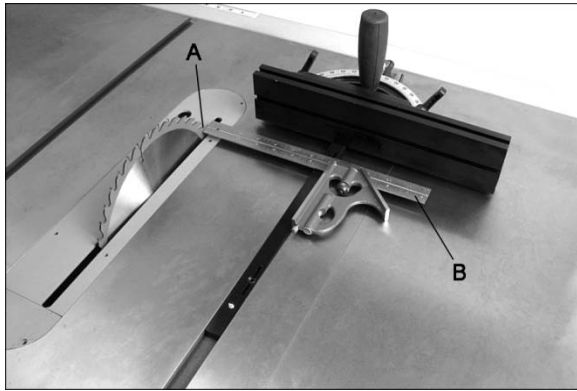

Figure 29
Refer to Figures 29 and 30.
3. Mark one tooth (A, Figure 29) with a grease pencil and position the tooth slightly above the top edge of table at the front.
4. Raise the miter gauge slightly out of its slot to serve as a shoulder. Using a sliding square (B) against the side of the bar, slide the scale over until it touches the tip of the blade, and lock the scale in position.